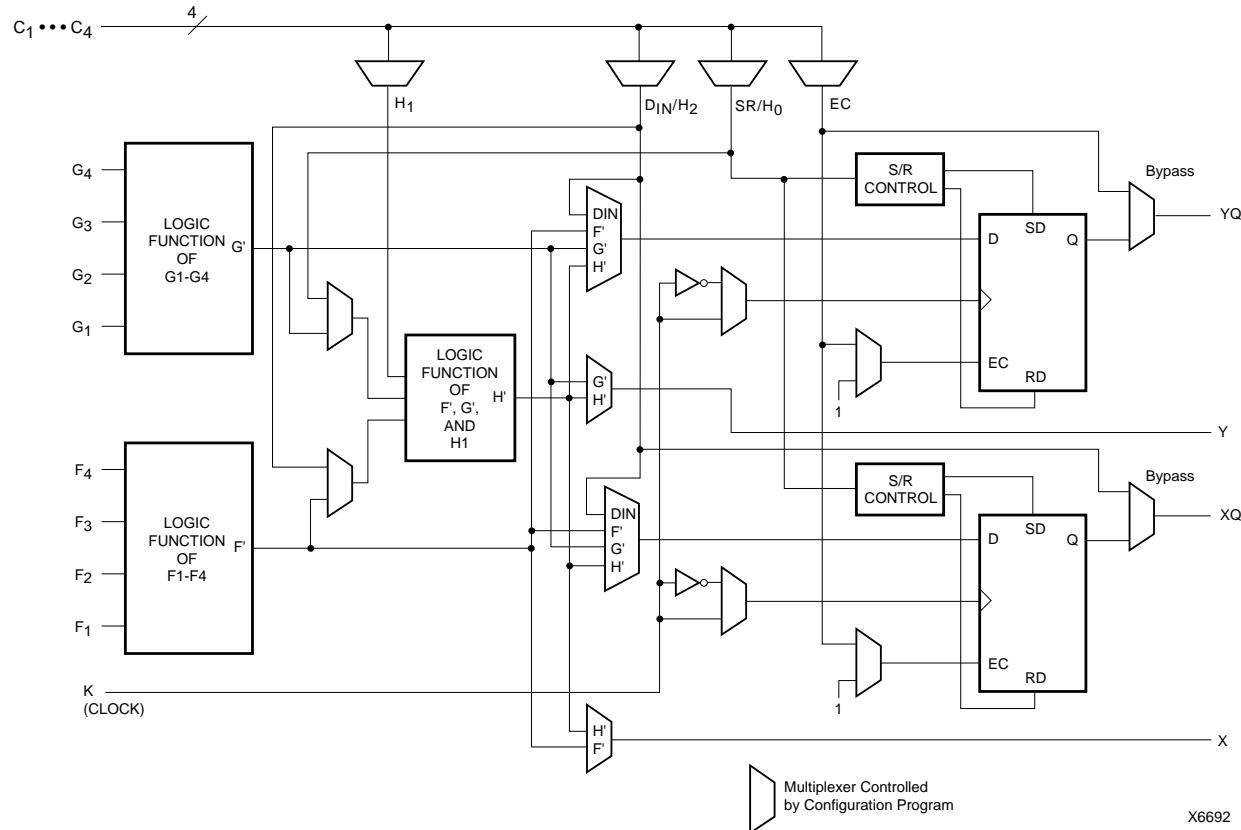

Figure 1: Simplified Block Diagram of XC4000 Series CLB (RAM and Carry Logic functions not shown)
Configurable Logic Blocks implement most of the logic in an FPGA. The principal CLB elements are shown in Figure 1. Two 4-input function generators (F and G) offer unrestricted versatility. Most combinatorial logic functions need four or fewer inputs. However, a third function generator (H) is provided. The H function generator has three inputs. Either zero, one, or two of these inputs can be the outputs of F and G; the other input(s) are from outside the CLB. The CLB can, therefore, implement certain functions of up to nine variables, like parity check or expandable-identity comparison of two sets of four inputs.
A separate Global Set/Reset line (not shown in Figure 1) sets or clears each storage element during power-up, re-configuration, or when a dedicated Reset net is driven active. This global net (GSR) does not compete with other routing resources; it uses a dedicated distribution network.
Two fast feed-through paths are available, as shown in Figure 1. A two-to-one multiplexer on each of the XQ and YQ outputs selects between a storage element output and any of the control inputs. This bypass is sometimes used by the automated router to repower internal signals.
Multiplexers in the CLB map the four control inputs (C1 - C4 in Figure 1) into the four internal control signals (H1, DIN/H2, SR/H0, and EC). Any of these inputs can drive any of the four internal control signals.